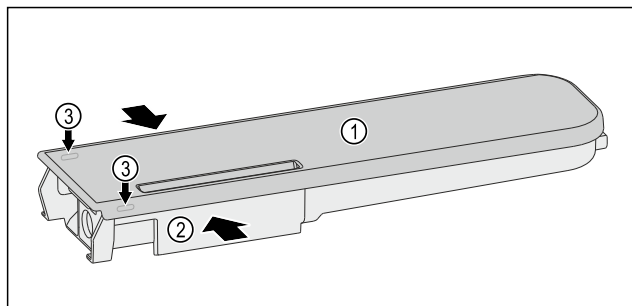

Fig. 173
- Push the water tanks Fig. 173 (2) together, leverage the cover Fig. 173 (1) carefully over the latching tabs Fig. 173 (3) and lift it up.
- Move the cover Fig. 173 (1) slightly forwards and back, and remove to the top.